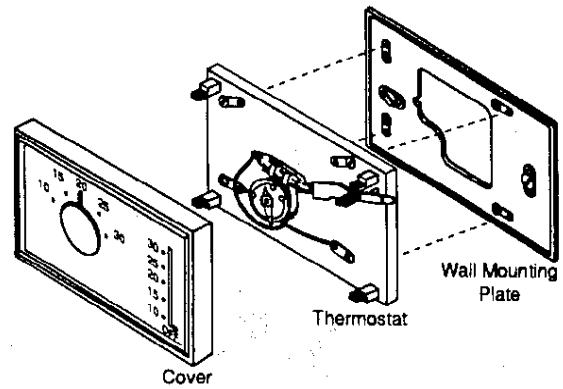

Figure 6. Attach thermostat to subbase
3. Attach thermostat base to wall mounting plate, being sure that all captive screws are tightened snugly, since they serve as electrical connections between thermostat and wall mounting plate (see fig. 6).